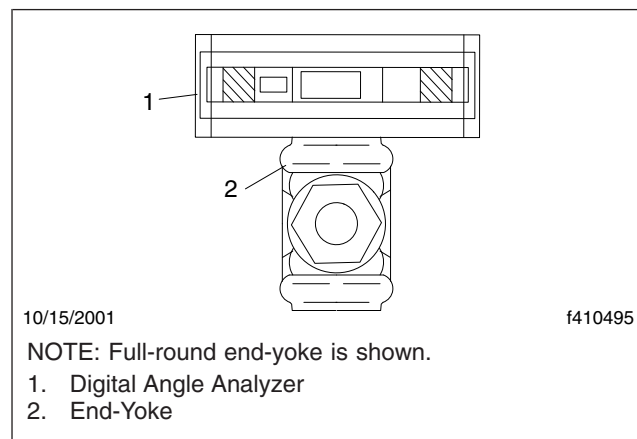

Fig. 2, Horizontal Positioning of Yoke Lug Machined Surface
5. Turn the end-yoke until the machined surface of the yoke lug is horizontal. See **Fig. 2**.
8. Position the DAA alongside the U-joint trunnion, on the machined surface of the end-yoke, and at a 90-degree angle to the frame centerline. See **Fig. 2**. Then turn the end-yoke until the DAA reads 0 degrees. Remove the jack stand and lower the rear axle to the ground.